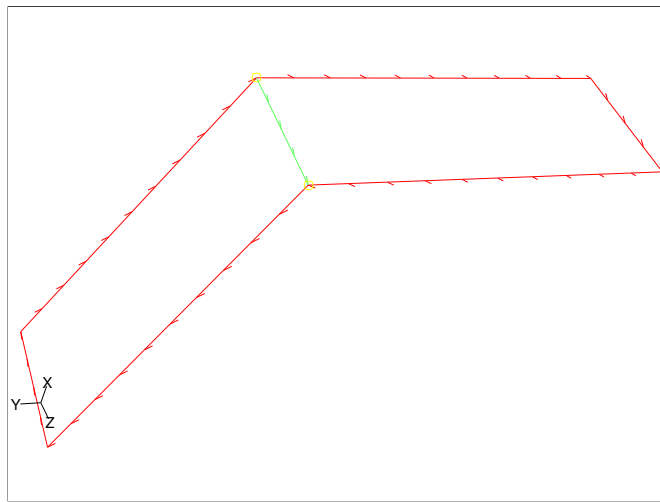

Figure 7.6.3: Edge Loops for Face Zone Approach and Fixed Angle = 55 (or Adaptive Angle)
- Figure 7.6.3 shows the edge loops created by using the **Face Zone** approach and **Fixed** angle criterion, with the angle specified as 55 degrees. The interior edge thread at the common edge is created since the specified value for **Angle** is smaller than the feature angle. Alternatively, if you use the **Adaptive** angle criterion, the change in angle will be detected automatically and the interior edge thread will be created as shown in Figure 7.6.3.